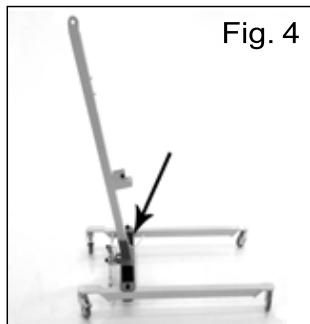

Fig. 4
2. Fit the mast into the provided cavity of the base. (Fig.4)
3. Fit the screw that blocks the mast into the base and screw it well. (Fig.4)